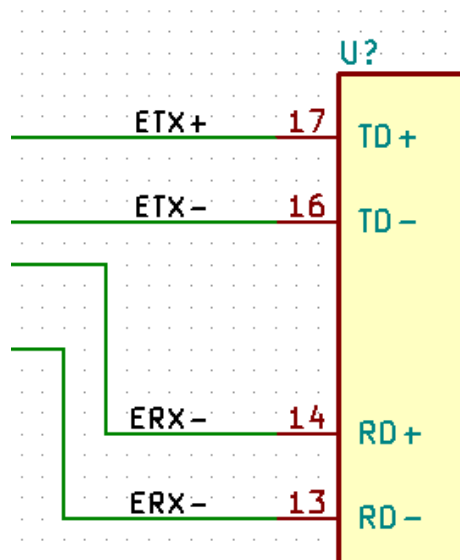

Figure 7 – Labeling Differential Pairs
- 19) Differential pairs should be labeled with a “+” or a “-” at the end of the net name or label. **Figure 7** shows a two differential Ethernet pairs properly labeled. Note: the “+” or “-” character must always be the last character in the name or label of a differential pair. Differential pairs with terminating resistors should be labeled as “_R+” or “_R-”.